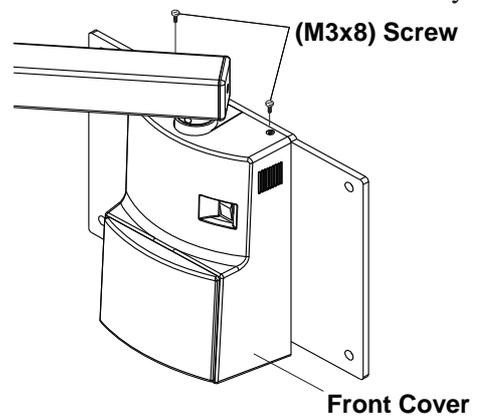

Fig.3-9B Attaching Front Cover-2
2. Install two (M3 x 8mm) screws into the top of the cover and confirm that the cover is securely attached. **(Fig.3-9B)**